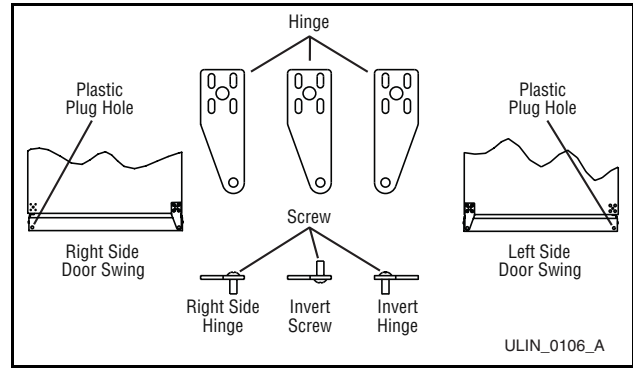

Figure 32
5. Remove pivot screw from top hinge, invert screw and reinstall pivot screw in top hinge **(Figure 32)**. Do not install hinge on cabinet at this time.
7. Remove pivot screw from bottom hinge, invert screw and reinstall pivot screw in hinge **(Figure 32)**.